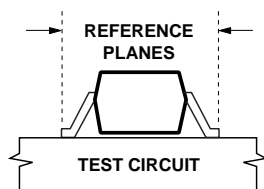

Figure 11. Reference Planes.
4. Reference plane per Figure 11 in Applications Information section.
The positions of the reference planes used to measure S-Parameters and to specify  $\Gamma_{opt}$  for the Noise Parameters are shown in Figure 11. As seen in the illustration, the reference planes are located at the extremities of the package leads.